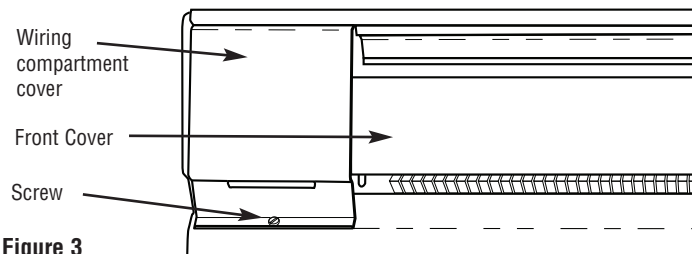

Figure 3
1. Remove wiring compartment cover at end of heater where power supply cable is to enter (Figure 3). Determine desired mounting location, position heater to wall and mark wall (or floor) at location where power supply is to enter heater.